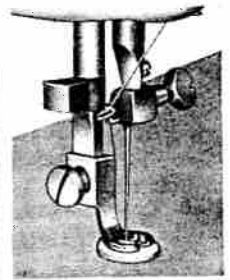

Fig. 40
4. Move zigzag stitch width stop until the needle comes down exactly over the right hand hole in the button. Fig. 40.